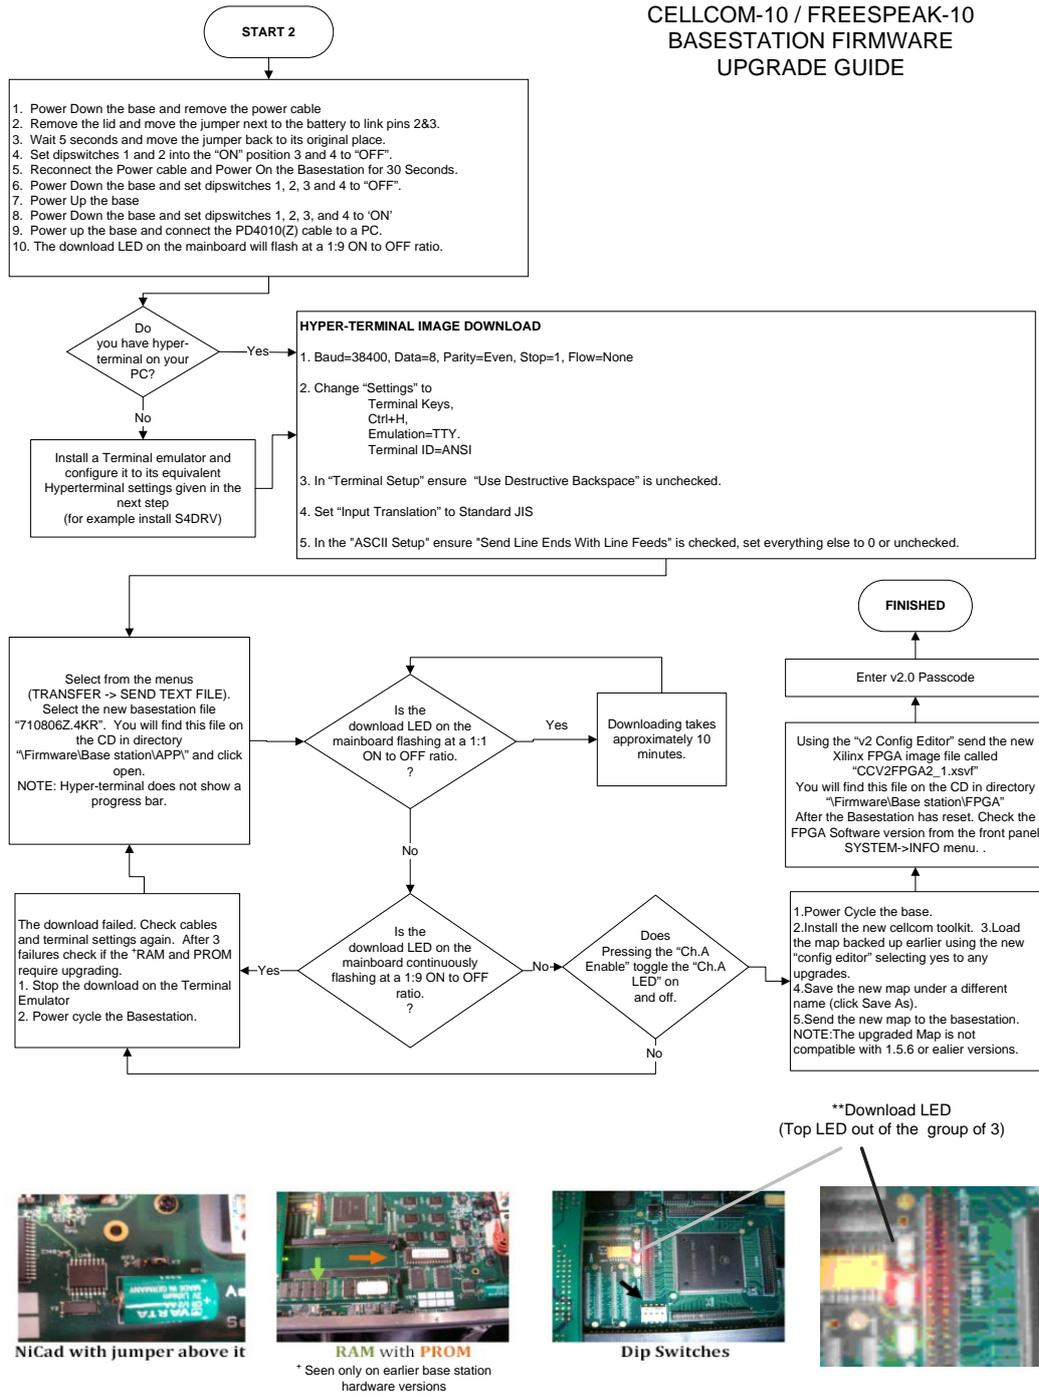

Figure 6: CellCom / FreeSpeak 10 basestation upgrade procedure (flow diagram).
- ***Figure 6: CellCom / FreeSpeak 10 basestation upgrade procedure (flow diagram).***